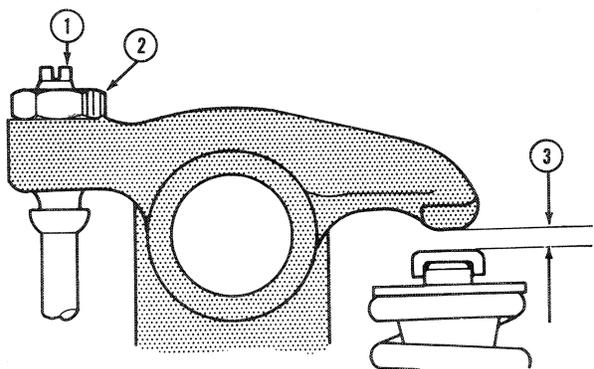

Figure 34
8. Adjust the rocker arm-to-valve clearance, Figure 34. Be sure the tappet is in its lowest position before making the adjustment. To be sure the tappet is in its lowest position, bring the piston to top-dead-center on the compression stroke (both valves closed).